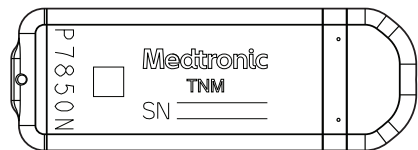

Figure 49. InterStim T neurostimulator
The neurostimulator serial number (SN) can be found on the packaging, on the neurostimulator before implant (Figure 49), on the patient ID card, or in patient records after implant.